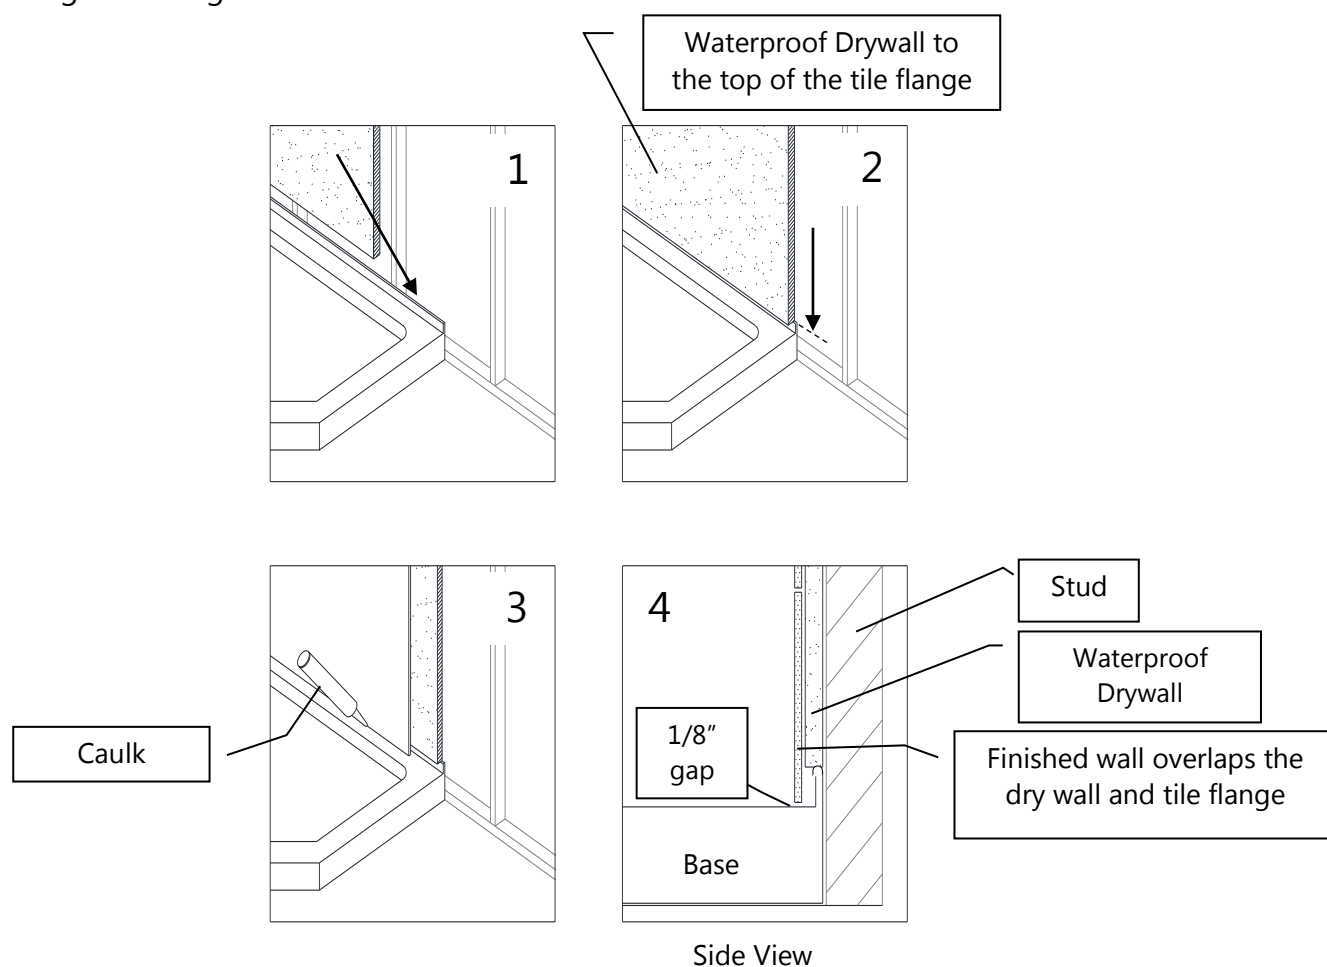
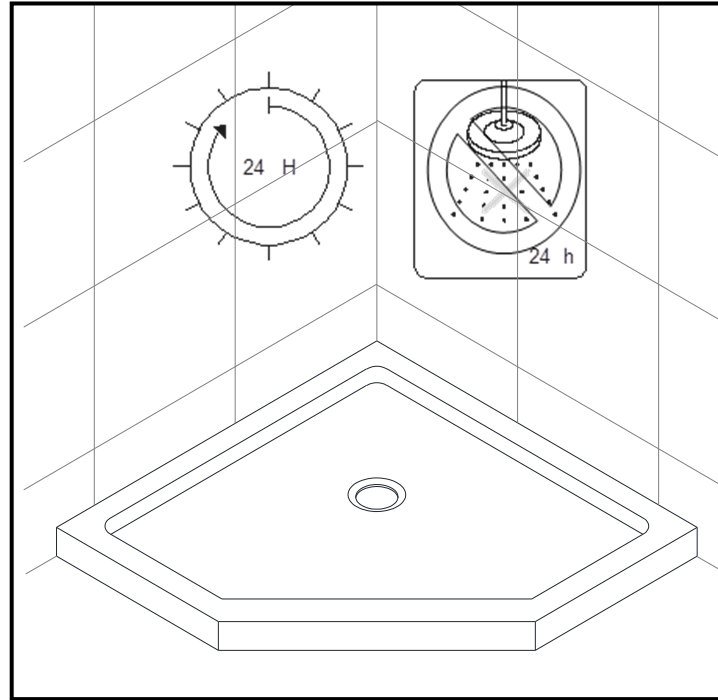

Fig. 8
Fig. 9
- Allow the bedding material to completely harden before applying weight to the bottom of the shower base. Install the cement board (or the wallboard) above the tile flanges and secure it to the studs. Put the tiles (or other finishing wall material) over the cement board leaving 1/8" gap between the bottom of the tile or wall kit and the shower base. Use caulk to fill the gap. See Fig. 8 and Fig. 9 for details.